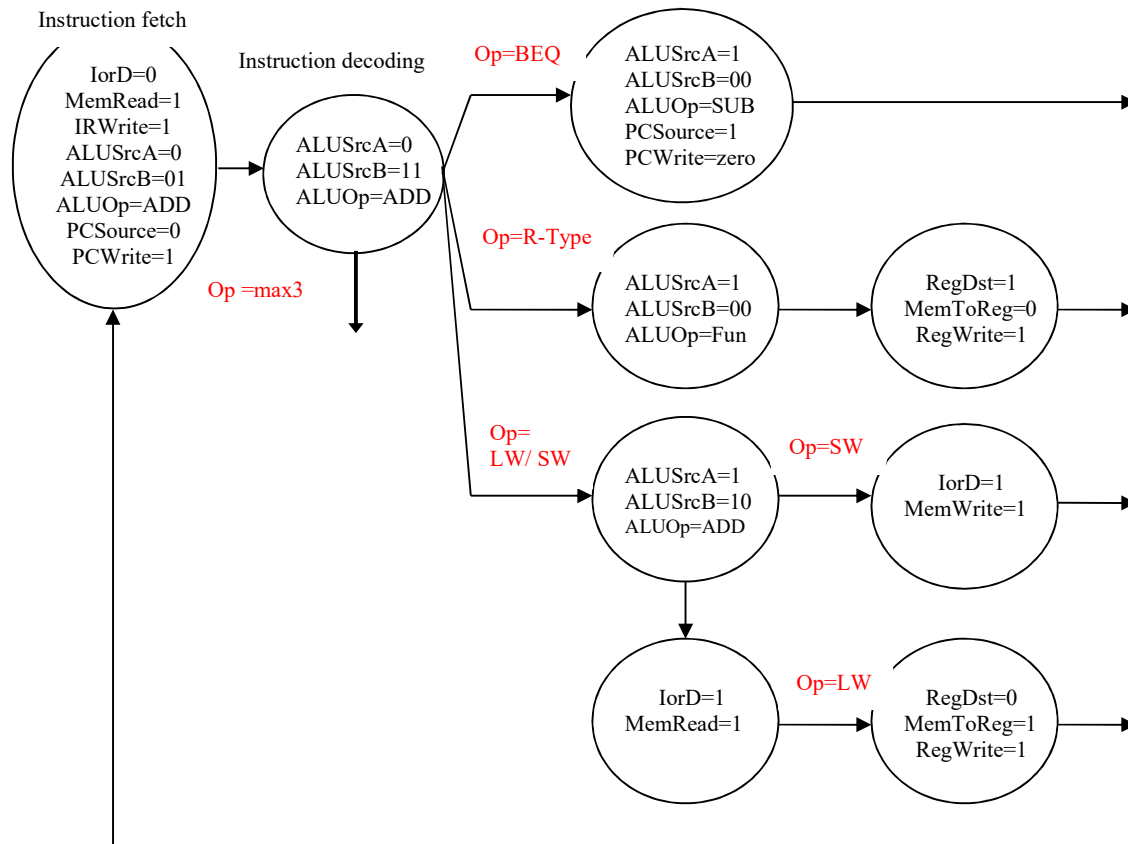

Figure. 3.2 The finite state machine of improved MIPS
- (b) (8 Marks) Complete the finite state machine diagram shown in Figure 3.2 for the **max3** instruction. Control values not shown in each stage are assumed to be 0. Remember to account